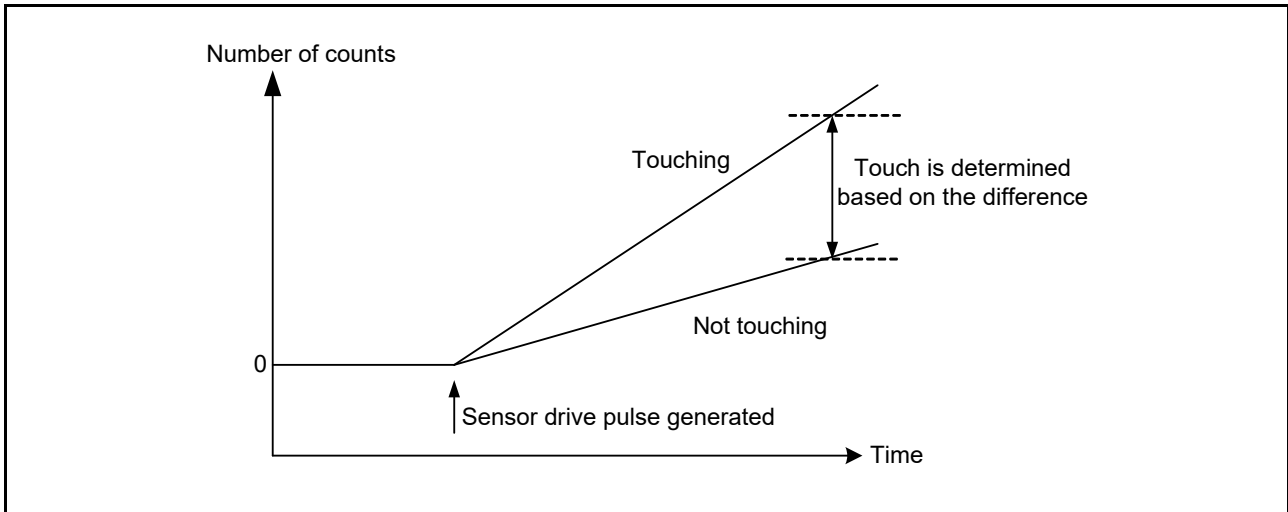

**Figure 40.5 Charging operation**
Figure 40.5 to Figure 40.7 explain the electrostatic capacitance measurement operation principles of the CTSU current frequency conversion method. The operation is as follows:
1. The electrostatic capacitance of the electrode is charged by turning SW1 on and SW2 off (Figure 40.5).